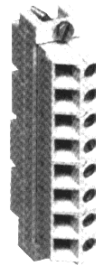

Figure 6: 8-position removable terminal block (CCA 608)
- 8-position removable terminal block CCA 608 (figure 6)
The communicating version of the digital relay includes a second 8-position removable terminal block CCA 608 (figure 6) and a 5-position screw terminal block (not shown) for connecting a Multipoint Communications Terminator (MCT-485).